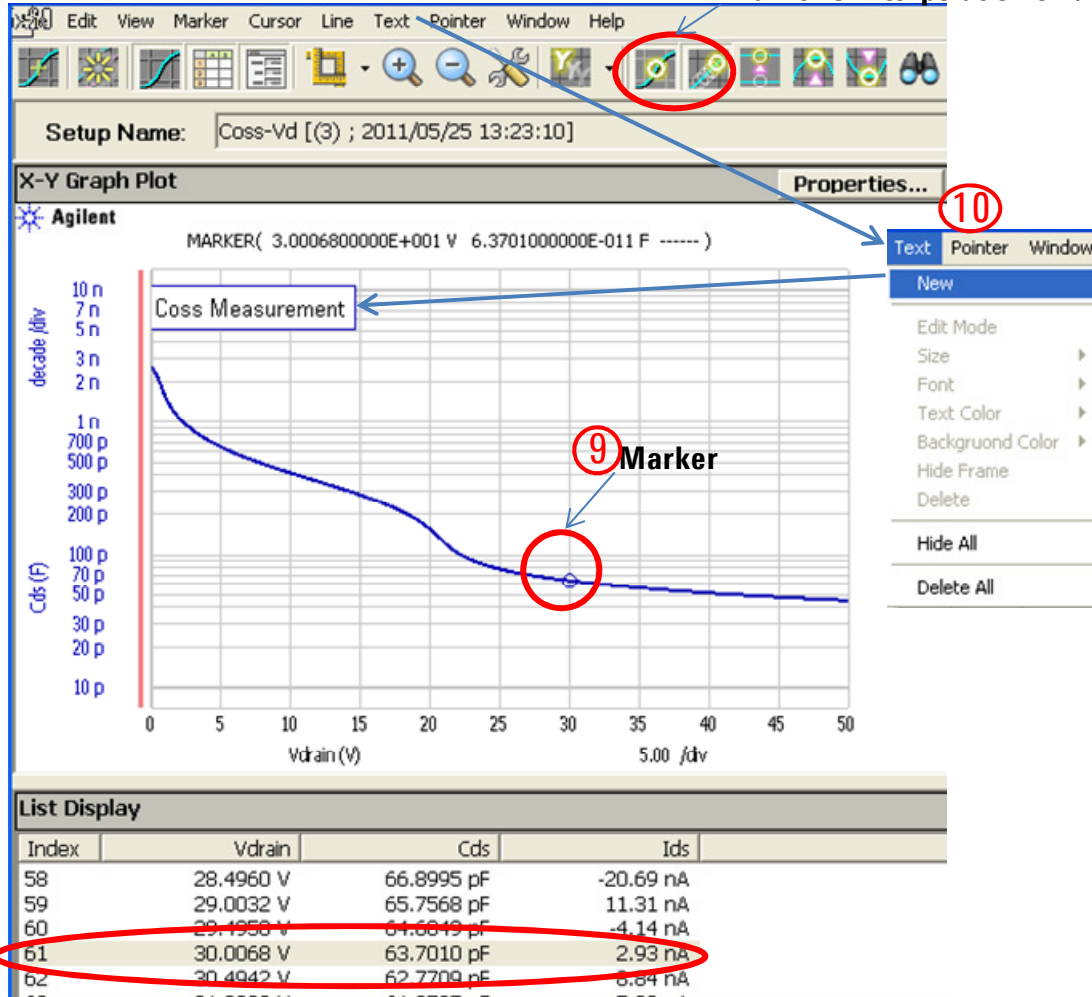

Figure 3-76. Coss-Vd output from Cds Application Test.
Step 8. You can see the Coss-Vdrain graph as shown in figure 3-76.
Figure 3-76 plots Coss (Label is Cds, though) in Y axis versus drain voltage Vdrain in X axis.
Step 10. You can add Text comment to the Display X-Y Graph Plot as shown in figure 3-76.